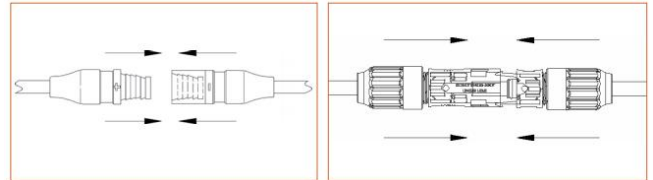

Figure 7: Connector of the plugs
Gain Solar green building materials are provided with two (2) stranded, sunlight resistant output cables that are terminated with PV connectors ready for most installations. The positive (+) terminal has a female connector while the negative (-) terminal has a male connector. The module wiring is intended for series connections [i.e. female (+) to male (-) interconnections, see Figure 7], but can also be used to connect suitable third-party electrical devices that may have alternative wiring configurations so long as the manufacturer's instructions are followed. Use field wiring with suitable cross-sectional areas that are approved for use at the maximum short-circuit current of the green building materials. Gain Solar recommends to use only sunlight Resistant waterproof cables qualified for direct current (DC) wiring in PV systems. The minimum wire size should be 4 mm².